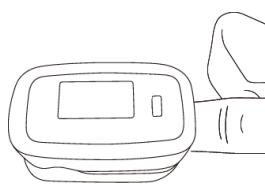

Figure 5 Sketch map for finger placement
- The finger should be placed correctly (see Attached figure 5), as improper installation or improper contact position for sensor will influence the measurement.
- 2) Open the clip as shown in Figure 5.